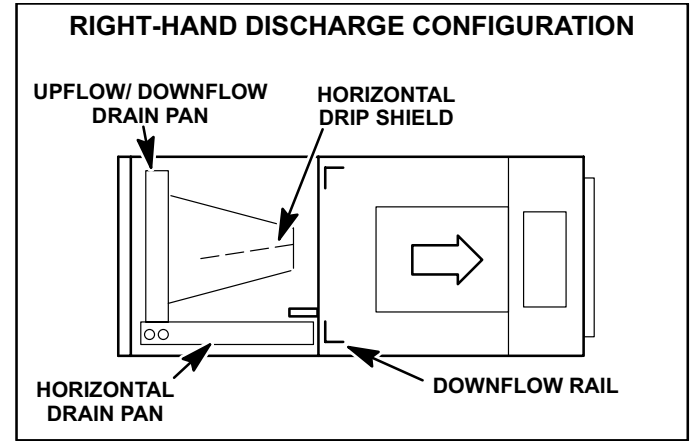

FIGURE 26
- 3- No further adjustment is necessary. Set unit so it is sloped toward the drain pan (1/4" [6mm]). See figure 26.